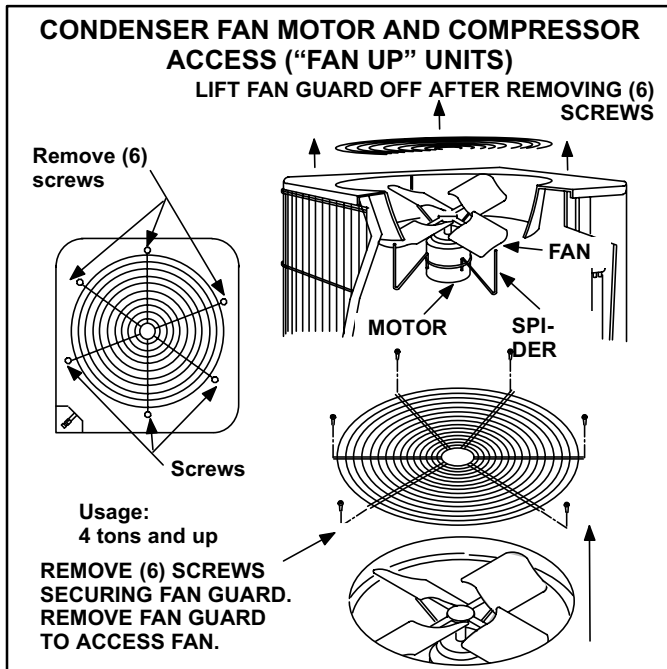

FIGURE 8
Two different mounting arrangements are used (fan up and fan motor up) see figures 8 and 9.
Access to the condenser fan motor on all units is gained by removing the six (6) screws securing the fan guard. See figures 8 and 9.